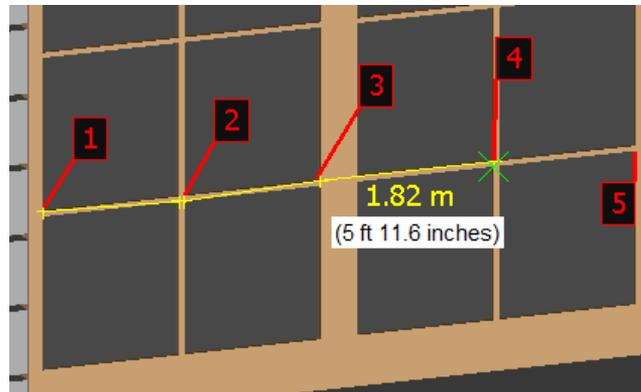
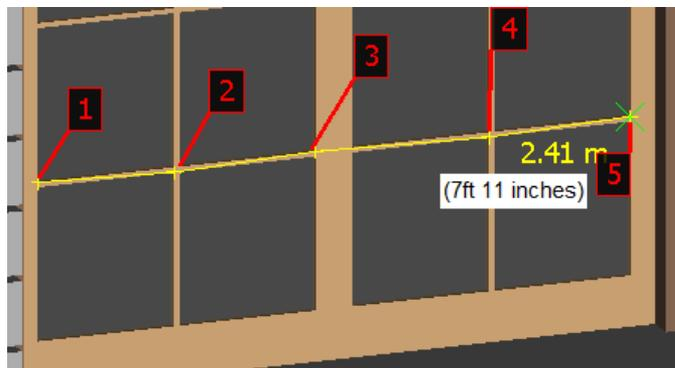

Figure 3-44 Distance calculated between point 1 and 4
Figure 3-45 Distance calculated between point 1 and 5
5. Repeat the procedure followed in step 3 and calculate the distance between point 1 and 4 and point 1 and 5, refer to Figure 3-44 and Figure 3-45.